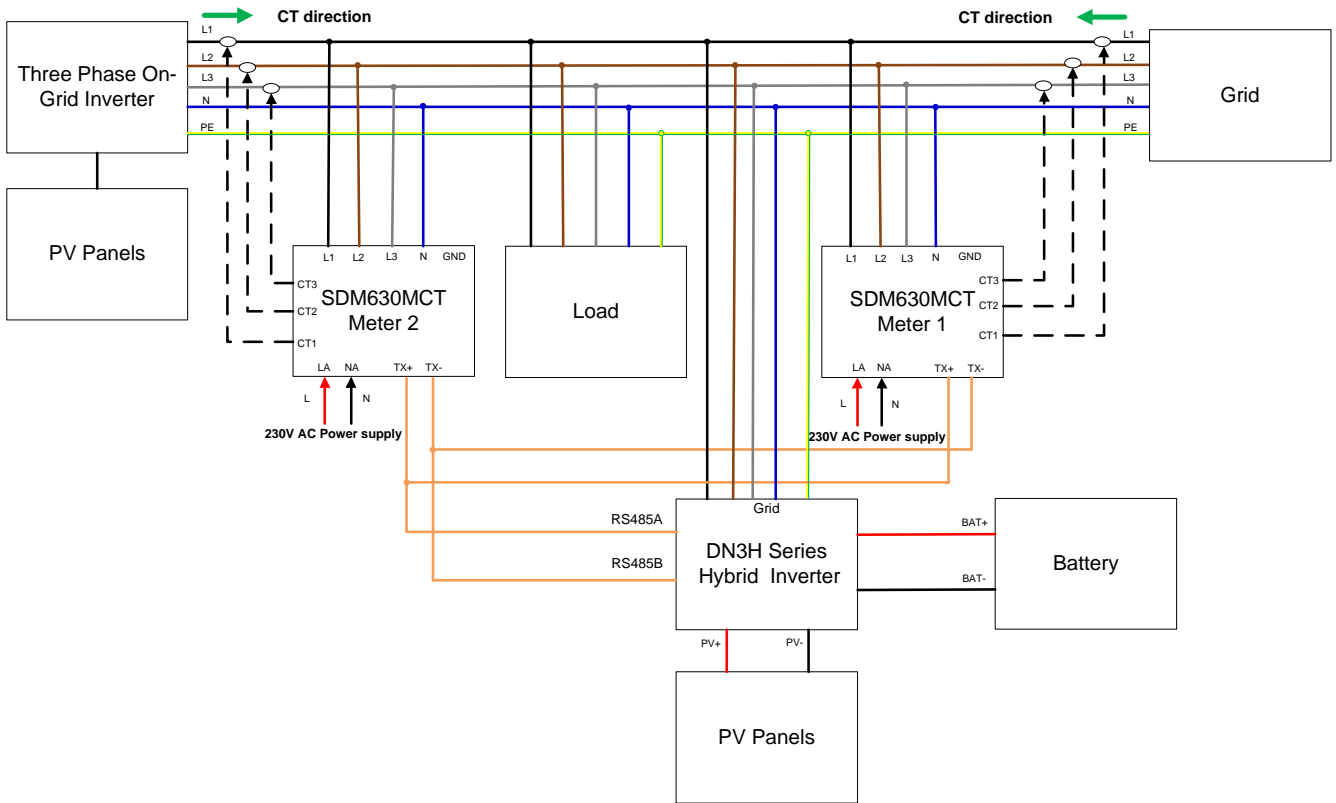

Figure 5-27 Connect one On-Grid three-phase inverter
3) Connect one On-Grid three-phase inverter(Figure 5-27): The local address needs to be set as "001" on the inverter screen, and meter1 address set as "001", meter2 address set as "002". The address of meter1 itself needs to be set to "001", and meter2 needs to be set to "002".